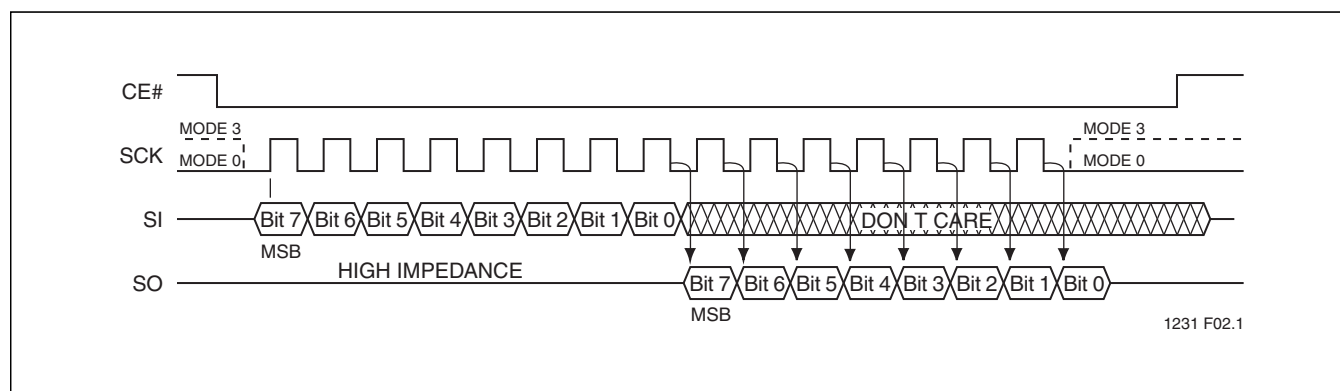

FIGURE 3: SPI Protocol
The SST25VF040 supports both Mode 0 (0,0) and Mode 3 (1,1) of SPI bus operations. The difference between the two modes, as shown in Figure 3, is the state of the SCK signal when the bus master is in Stand-by mode and no data is being transferred. The SCK signal is low for Mode 0 and SCK signal is high for Mode 3. For both modes, the Serial Data In (SI) is sampled at the rising edge of the SCK clock signal and the Serial Data Output (SO) is driven after the falling edge of the SCK clock signal.